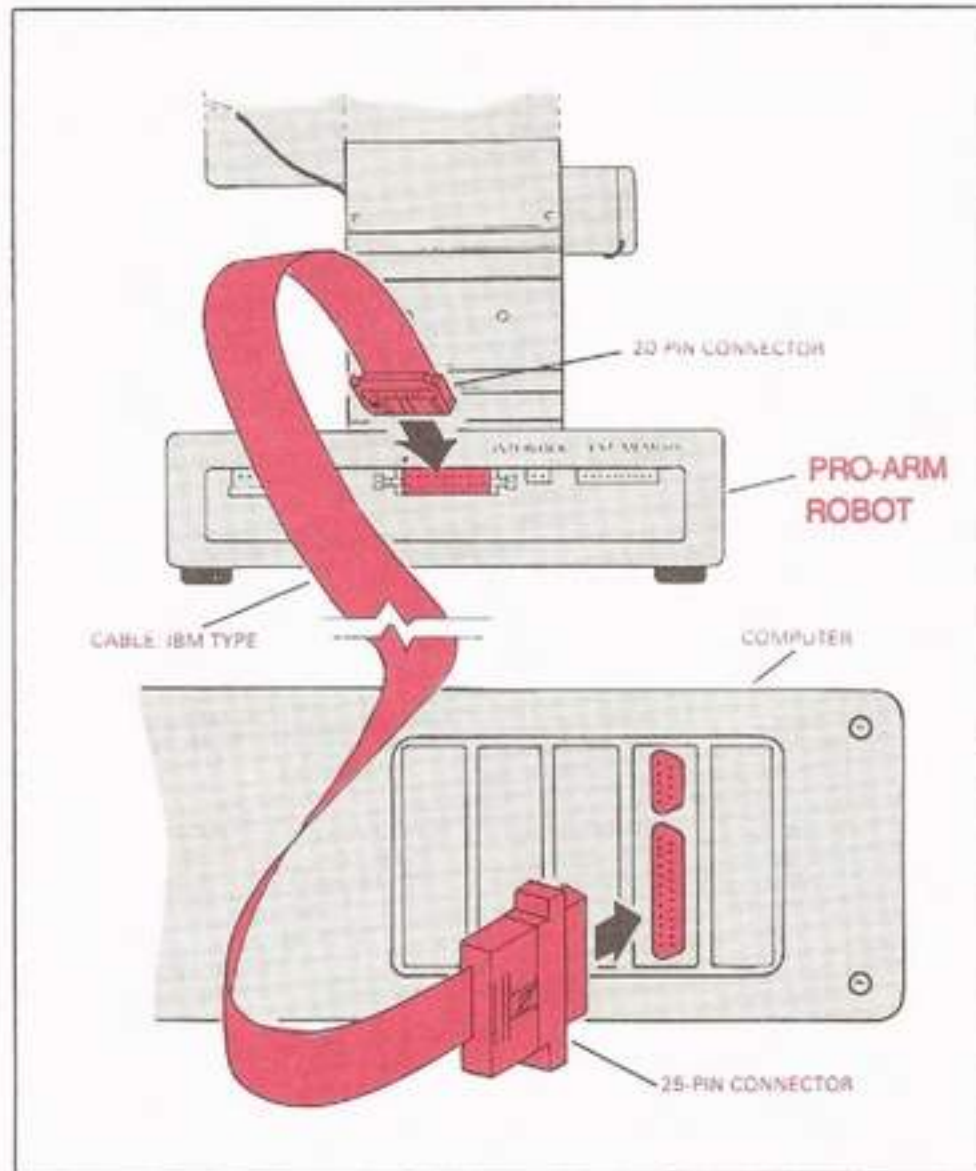
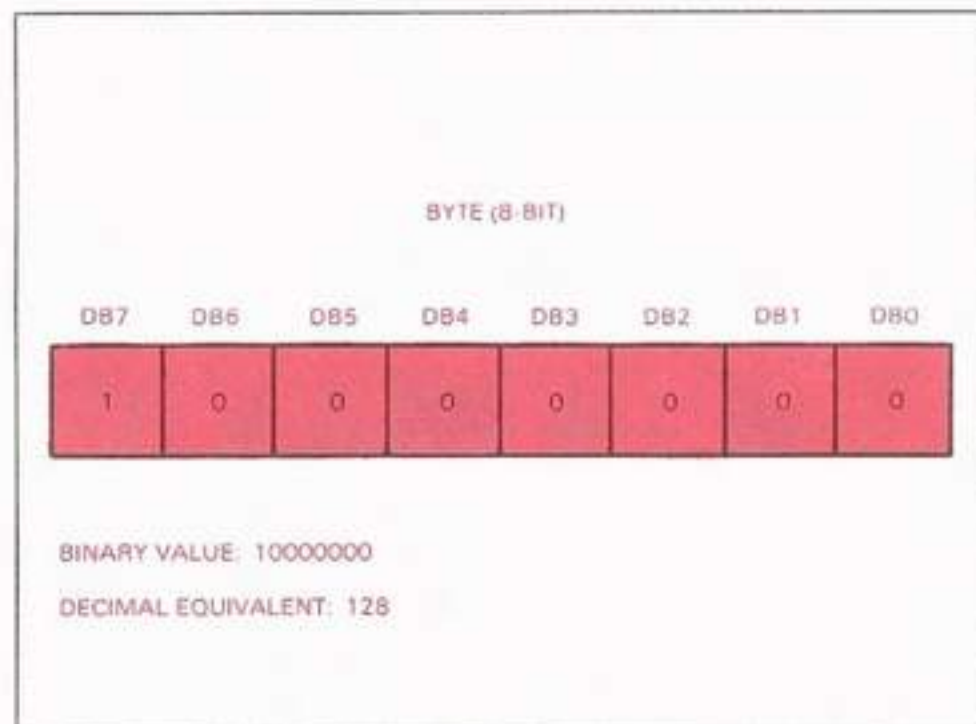

Fig. 69: The IBM-type Interface Cable
Fig. 70: One Byte
The computer's parallel port sends data, byte by byte, to the Pro-Arm's parallel port by way of the parallel interface cable. Refer to Fig. 69. You installed this cable during Lab Exploration 3, "Hardware." One byte is composed of 8-bits, as shown in Fig. 70. Notice that the byte shown in Fig. 70 is made up of only "zeros" or "ones." This is because the binary numbering system only uses those two digits. Each "one" is worth twice the value of the "one" to its immediate right. That means that the value shown in the Fig. 70 represents the number 128 (**DB7 or Data Bit 7**) in normal decimal notation.
In order to figure out the decimal equivalent of an 8-bit binary value (**byte**), you must add the individual values of any position that has a "one" in it. "Zeros" receive no value. The value of the position immediately to the right of DB7 (**position DB6**) is 64. If that position had a one (1) in it also, the value of the byte in Fig. 70 would be 192. If we follow this logic to its inevitable conclusion, the highest numeric value that could be represented with 8 bits of data would be 255. In order to count higher we would need more bits, and a bigger data bus. Larger systems use both. If we needed a bigger number on the Z80's data bus, we could send the number in two or more separate bytes, end to end, with the rightmost digits (**lower byte**) first.